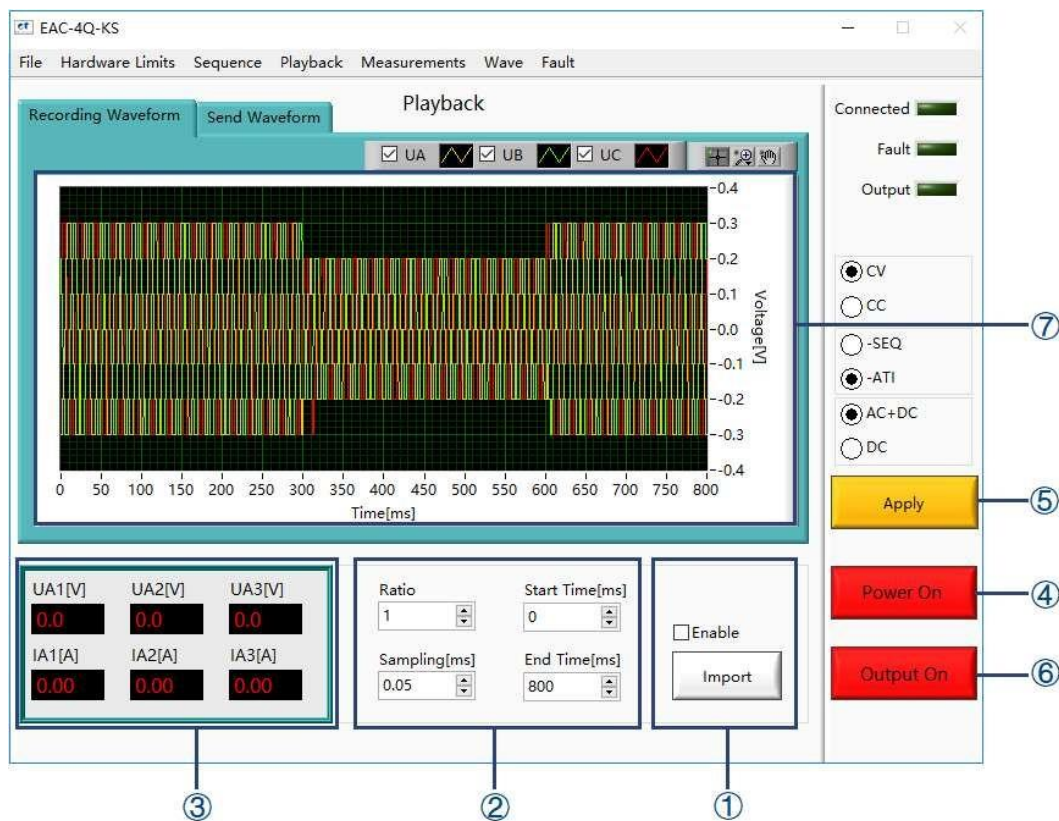

Figure 5-27 Waveform reproduction interface
- (1) Click "Playback" to enter the waveform reproduction panel, click "Power On" (Figure 5-27④) to start the network side.
- (2) Click "Import" to import the default waveform curve (Figure 5-27①) (If the customize curve file need to import by users, check the "Enable" box, and then click "Import").
- (3) Set parameters, such as waveform scale, waveform sampling time, waveform start/end time, etc. (Figure 5-27②).
- (4) Click "Apply" → "Replay" (Figure 5-27 ⑤) to import waveform data.
- (5) Click "Output On" (Figure 5-27 ⑥), the power supply works and start to output.